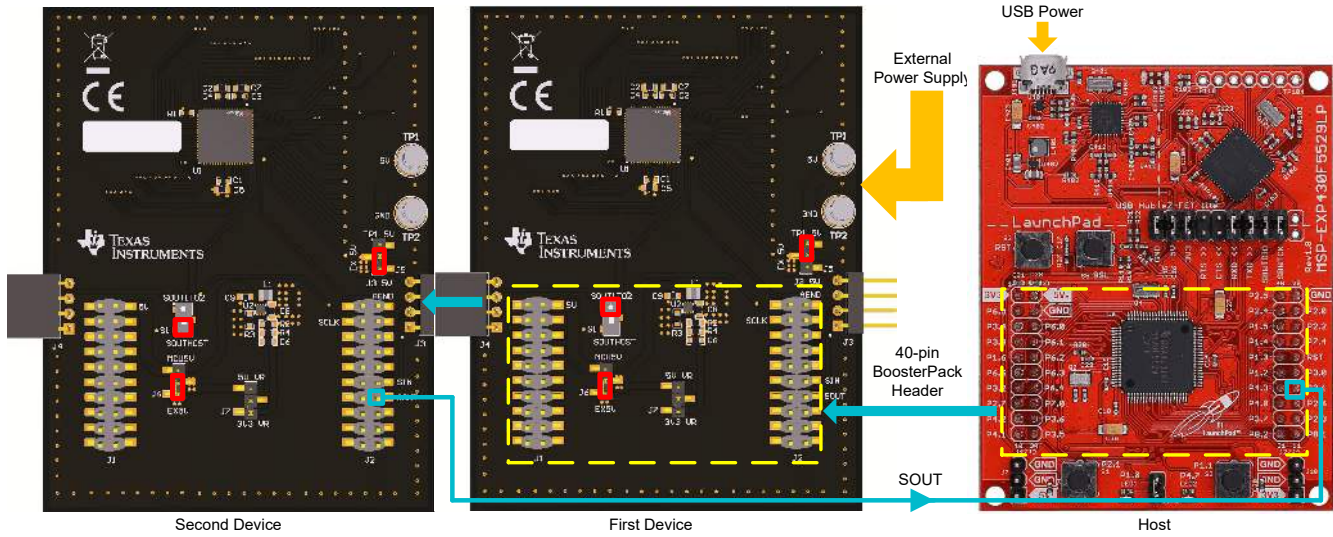

Figure 3-3. Dual Cascaded LP5890EVM Connected with the MSP430F5529 LaunchPad
2. For the first LP5890EVM, put the J5 jumper on "TP1 5V" and "EX 5V". Then put the J6 jumper on "EX5V" and the middle. Set the switch S1 towards "SOUT1TO2". These setups are marked with red boxes on the "First Device" in Figure 3-3.
3. For the second LP5890EVM, put the J5 jumper on "J3 5V" and "EX 5V". Then put the J6 jumper on "EX5V" and the middle. Set the switch S1 towards "SOUTHST". These setups are marked with red boxes on the "Second Device" in Figure 3-3.
4. Connect BoosterPack connectors (J1, J2) on the first LP5890EVM with the MSP430F5529 LaunchPad, the connection method is shown in Figure 3-3.
5. Connect the J4 connector of the first LP5890EVM to the J3 connector of the second LP5890EVM. The direction is shown in Figure 3-3.
6. (Optional) Connect the SOUT pin of connector J2 on the second LP5890EVM to the P3.1 pin of connector J4 on the MSP430F5529 LaunchPad through an additional 1-pin cable that is marked as the bottom blue line in Figure 3-3. This step enables LP5890EVM to report LOD (LED Open Detection), and LSD (LED Short Detection) out to the host MSP430F5529 LaunchPad.